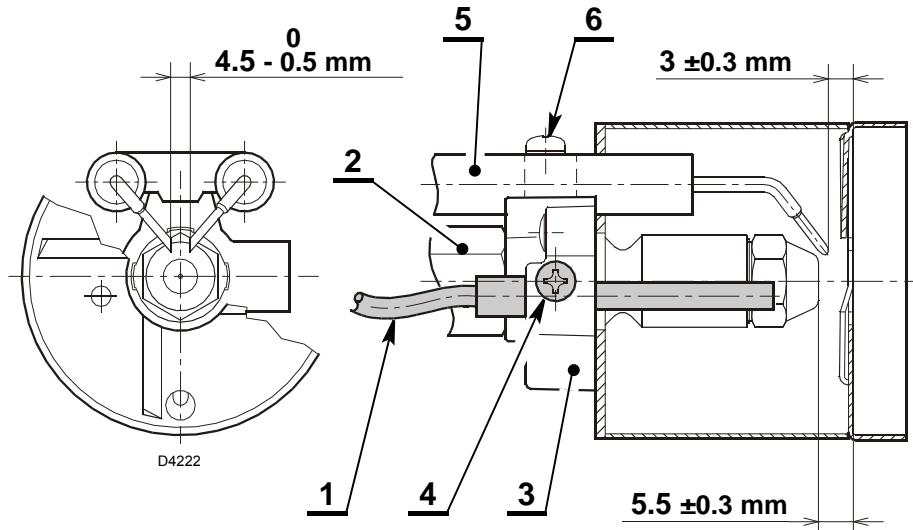

Fig. 12
These dimensions Fig. 12 must be respected.
- rest the diffuser disc-holder assembly 3)(Fig. 12) against the nozzle holder 2)(Fig. 12) and lock it in place with the screw 4)(Fig. 12).
For any adjustments of the electrodes assembly 5), loosen screw 6)(Fig. 12).
- insert the optical fiber 1)(Fig. 12) into the diffuser disc-holder assembly (3) making sure it goes all the way in.
- Carefully tighten the screw 4)(Fig. 12) to lock the optical fiber 1)(Fig. 12).